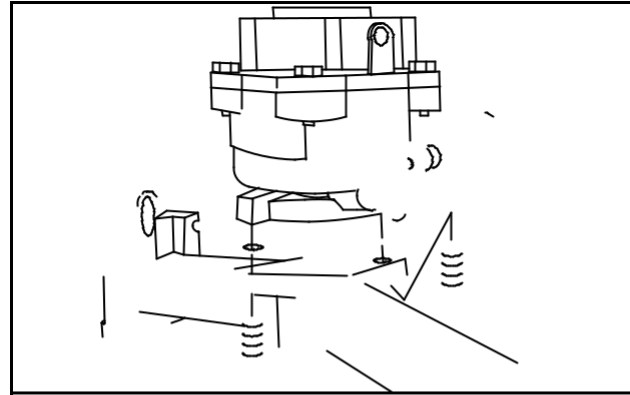

Fig. 10 – Remove Carburetor
4. Remove carburetor from intake manifold, Fig. 10. a. Discard gaskets.